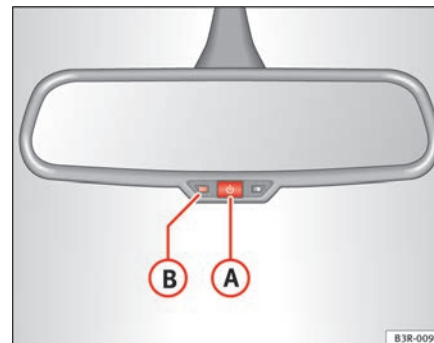

Fig. 102 Interior rear view mirror with anti-dazzle setting: Indicator lamp and on/off switch
- Press button **A** ⇒ fig. 102. Warning lamp **B** goes out:
- Press button **A** ⇒ fig. 102. The indicator lamp **B** will light up.